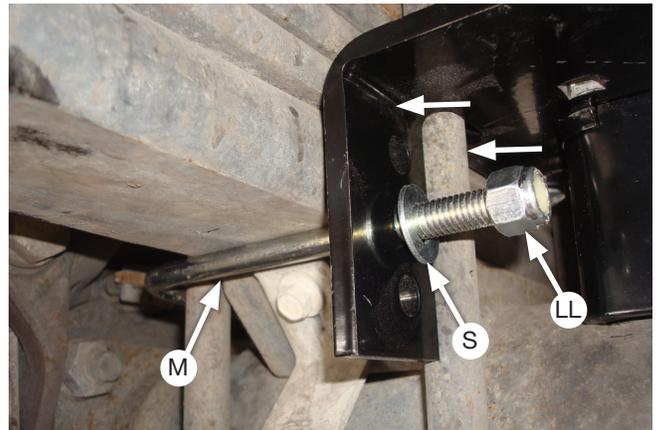

Fig. 41
2. Insert the U-bolts into the middle holes on the lower bracket as you install the assemblies onto the vehicle (Fig. 41). Cap with 3/8" flat washer (S) and 3/8" nylon lock nuts (LL). Snug bolts evenly, just enough to hold the lower bracket main plate flush against the stock U-bolts.